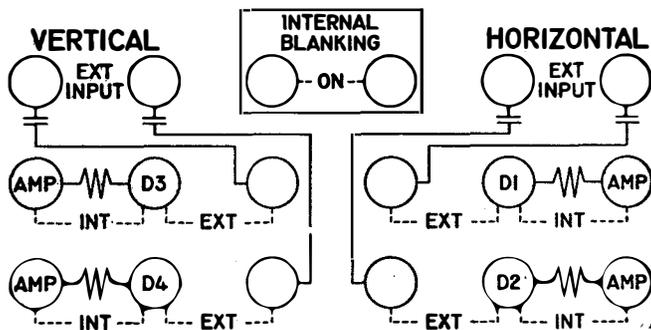

Figure 4-3. Rear Terminal Board E110
b. APPLYING VOLTAGE DIRECTLY TO DEFLECTION PLATES. (See Figure 4-3)
i. RETURN TRACE ELIMINATION. (See Figure 4-3)